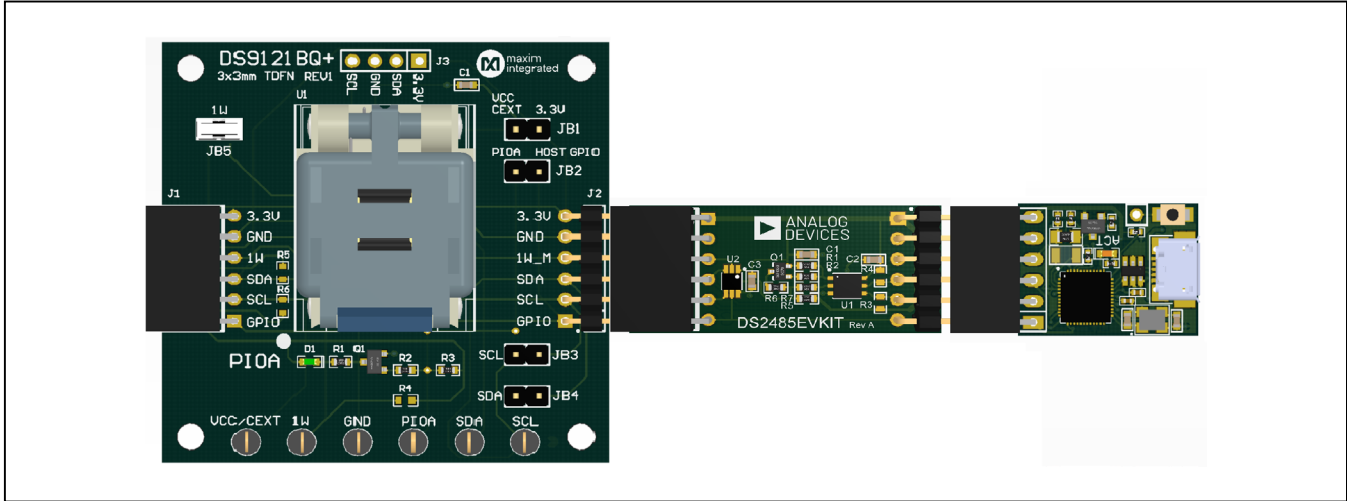

Figure 2. Board Connectivity
- 8) Insert a DS28E07 IC into the DS9121BQ board and connect it to J2 of the DS2485 EV kit peripheral module, as shown in Figure 2.